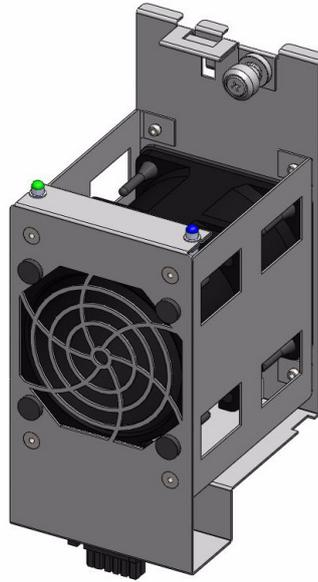

Figure 1-63 Fan Module
- Remove the front chassis cover (see “Removing the Front or Rear Chassis Cover” on page 19) and locate the fan module with the illuminated blue LED (Figure 1-63).